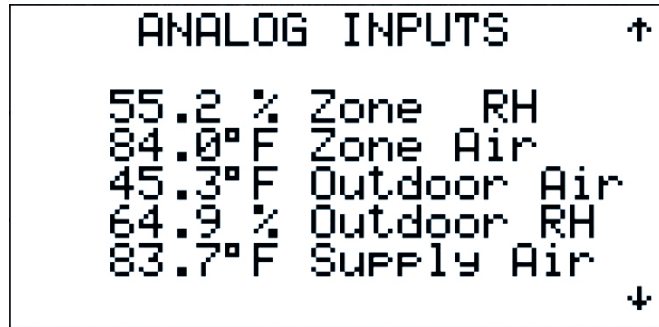

Figure 81
2.3.3.3.2 Analog Inputs (Figures 81 through 90)